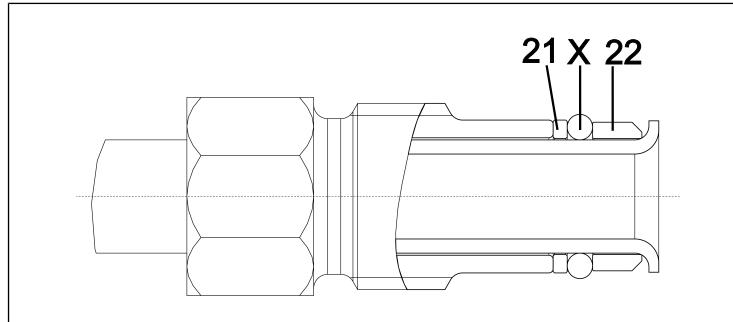

Fig.18: Correct position of O-ring
i When changing the O-rings, make sure that the new O-rings are positioned correctly (between sleeve (22) and sliding washer (21); see Fig. 18).